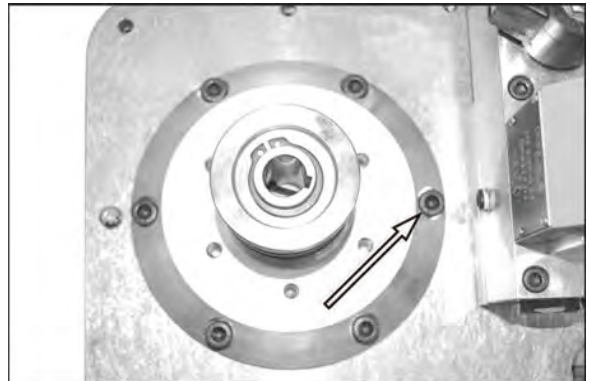

Figure 72.
4. See Figure 72. Remove the six adapter bolts and the adapter.